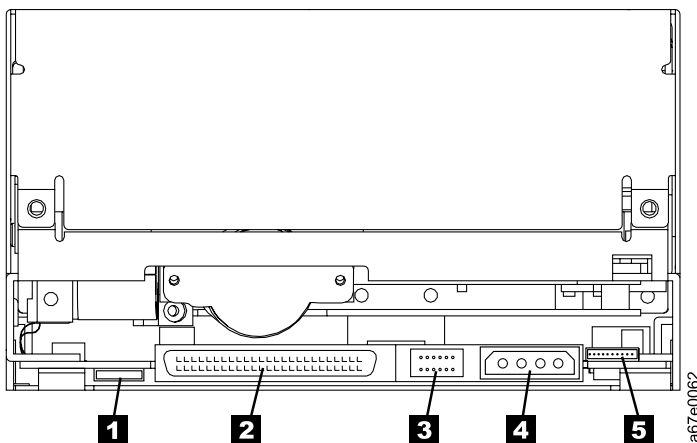

Figure 28. Rear view of the IBM TotalStorage LTO Ultrium 2 Tape Drive Model T400 (SCSI drive)
5. Disconnect the internal power cable from the power connector (see **4** in Figure 28).